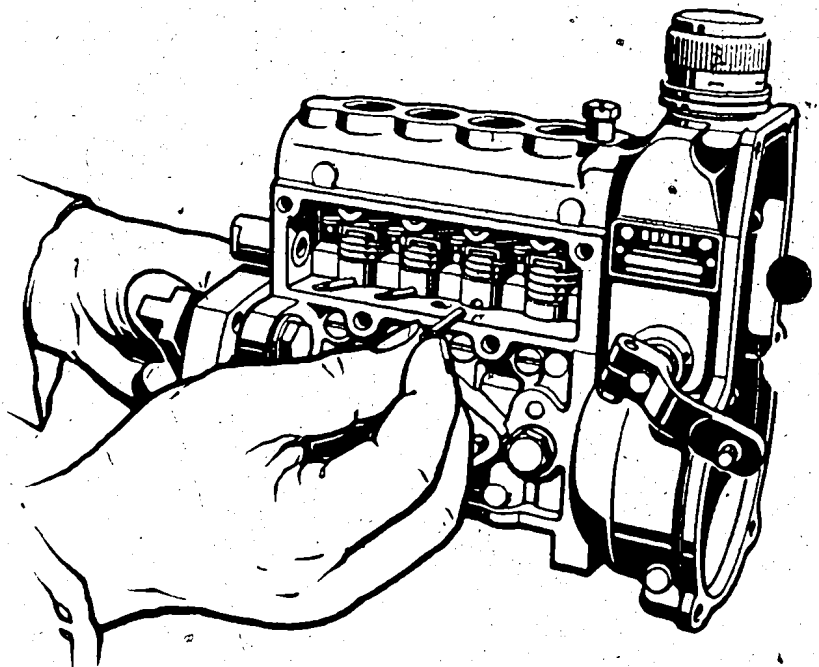

Fig. 4: Introducing the tappet holder pins
4. At control rod (25) remove locating washer (27). Loosen clamping screws (29) on the individual clamping pieces (drivers) (28) and withdraw control rod towards governor end. While pulling out control rod take off the clamping pieces in succession and place into the appropriate compartment of the depositing tray.
5. Temporarily mount drive coupling on taper of camshaft. Rotate camshaft and, in the upper dead-center position of each roller tappet (5) insert tappet holder pin EFEP 308 A in the hole provided (Fig. 4). Remove the 4 securing bolts (47a) of the bearing endplate at pump side 1 (drive-end), together with lock washers (48).